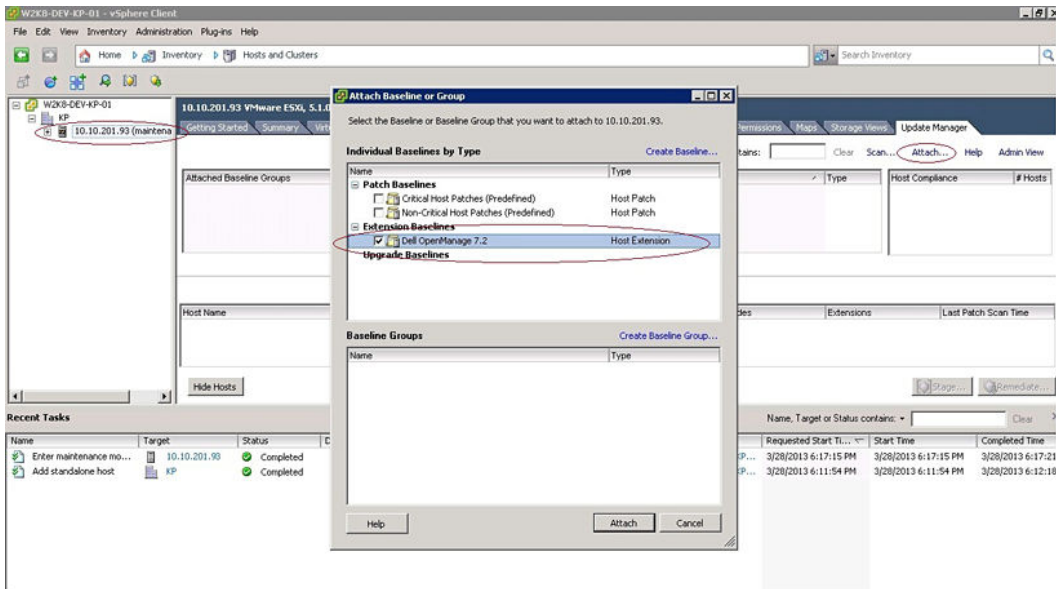

Figure 8. Adding the VMware ESXi host to vCenter and attaching the baseline
8. Add the VMware ESXi host to vCenter server and attach the baseline created in the previous window to the host as shown in figure 8.